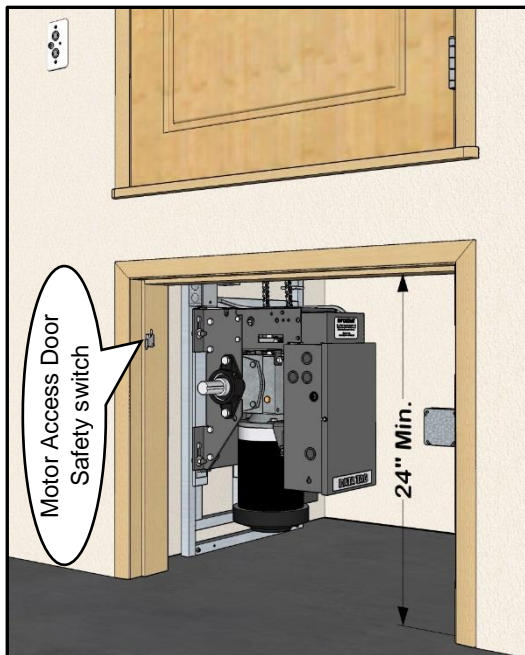

Figure 30
- 5** Mount the safety switch to the jam of the access panel opening, so that you can hear the switch click when opening and closing the access door. **(see Figure 30)**